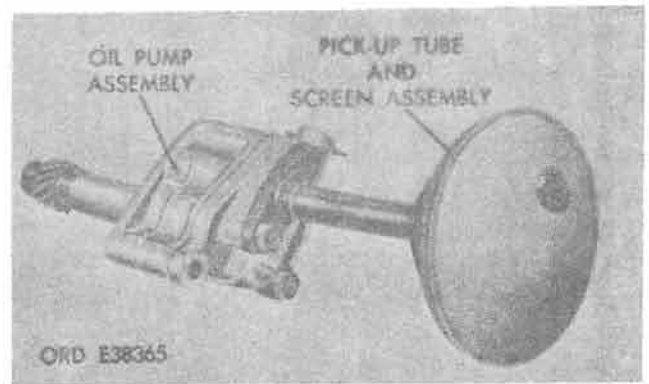

Figure 4-91. Oil pump assembly with pickup tube and screen assembly.
c. Oil Pump Assembly. Remove oil pump assembly with pickup tube and screen assembly in place (fig. 4-91).